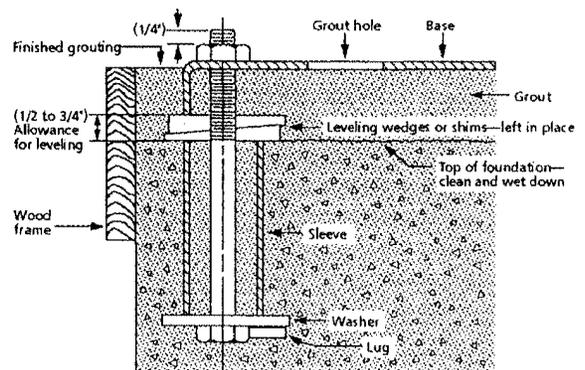

Figure 1
2.3.1. It is recommended that the bedplate be grouted to a foundation with solid footing. Refer to Fig 1.